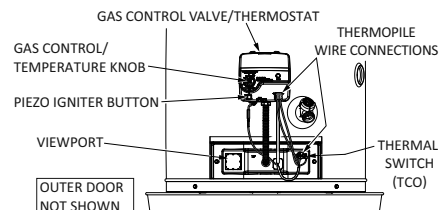

Figure 7.
door. The control knob must be set to Pilot and held in continuously while clicking the igniter button (about once per second for up to 90 seconds). To observe the Pilot, remove the outer door and look through the view port (sight glass). See Figure 7.
1. Wait 10 minutes before another lighting attempt. If the pilot does not light, the Igniter may not be sparking or the unit may not be getting gas (or for a new installation, there may still be air in the gas line). Each time you click the igniter button, you should be able to see the spark by looking through the view port. See Figure 7. (You may have to darken the room lights to see the spark.) You do not have to push the Control Knob in to check the Igniter button. Simply look through the sight glass while clicking the Igniter button and look for a spark. If you can't see a spark when the Igniter button is clicked, check the wiring connections from the Igniter button and make sure that they are tight.
3. Press the reset button on the thermal switch (TCO switch). See Figure 7.
5. Check the wiring connections from the thermopile and thermal switch (TCO) to the gas control valve/thermostat. Ensure that all wiring connections are tight. See Figure 7.